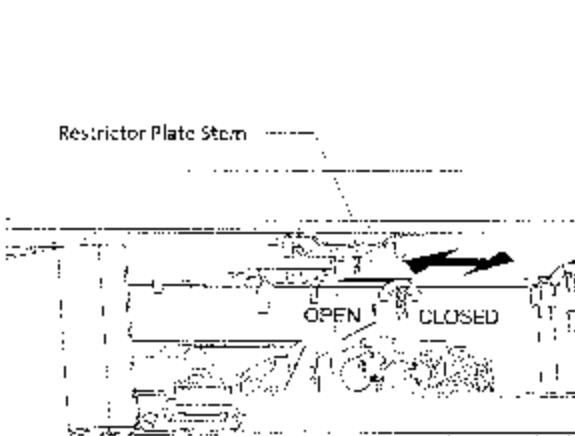

Figure 28. Air Inlet Restriction Adjustment
1. Locate the adjustment stem (see fig. 28) and loosen the wingnut.